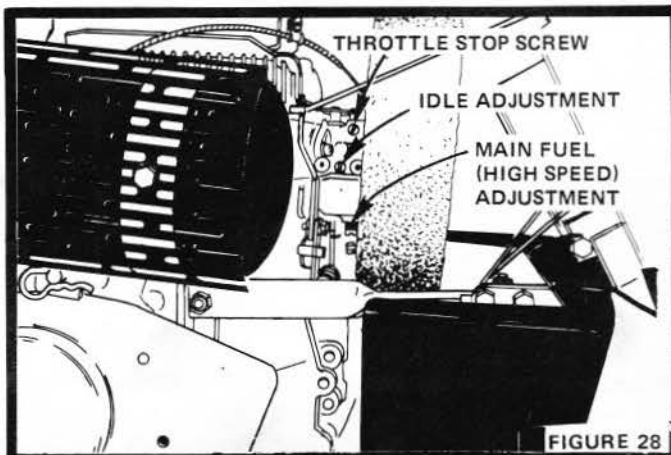

FIGURE 28
- Main Fuel (High Speed) Screw (Fig. 28) should not require adjustment. If resetting is necessary, turn clockwise, closing finger tight ONLY, then turn counterclockwise 1 to 1 - 1/8 turn.
- Turn Idle Adjusting Needle (Fig. 28) clockwise, closing finger tight ONLY, and then turn counterclockwise 3/4 to 7/8 turn.
- Throttle Stop Screw (Fig. 28) should not require adjustment. If resetting is necessary, set to obtain the slowest engine speed that will allow smooth acceleration.